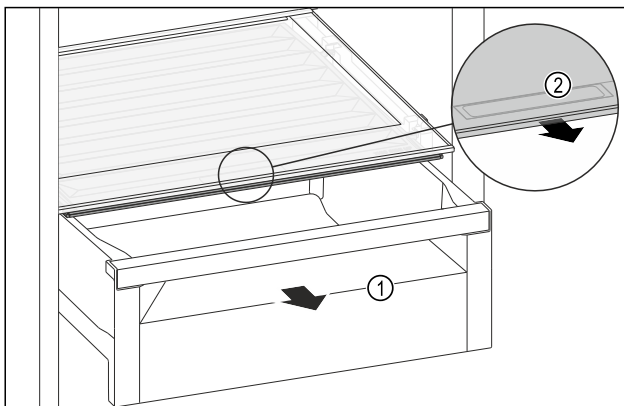

Fig. 123
- ▶ Pull out the drawer Fig. 123 (1).
- ▶ Grasp the recessed grip Fig. 123 (2) on the compartment lid and pull the compartment lid forwards at the same time.